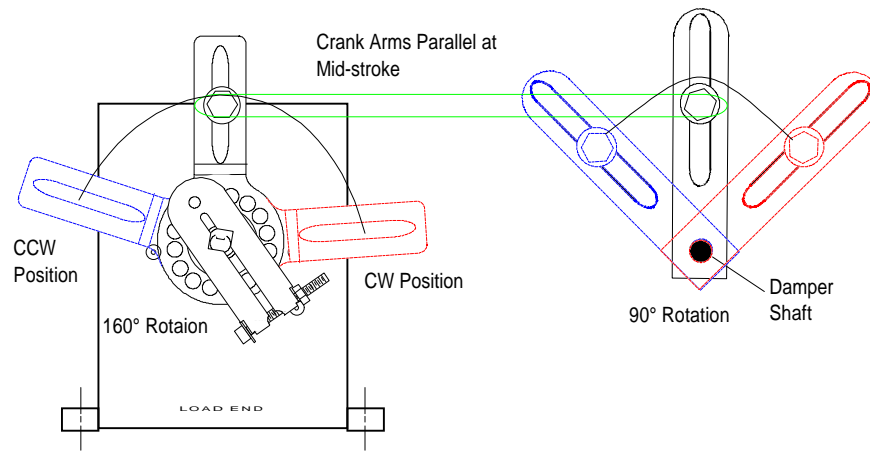

Figure 4: Crank Arm Positions
10. Position the LVR27A-602 crank arm onto the stamped load end of the M100 drive shaft so that it is parallel to the damper crank arm as shown in Figure 4. For application other than 90°, the damper and actuator crank arms will only be parallel at mid-stroke.